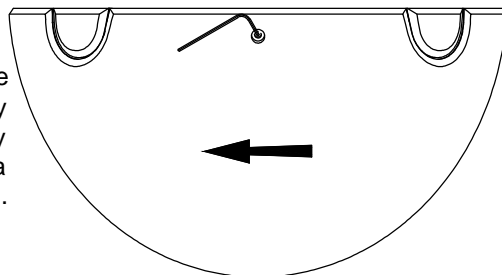

fig 1.
1. Remove the BulkLED from the protective packaging. **(fig 1)** Unscrew the security screw on top of the fitting with the key provided and remove, keeping the screw in a safe place for re-fitting later on.